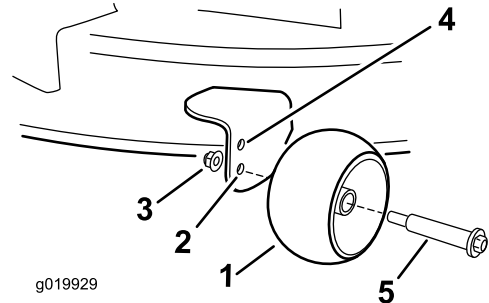

Figure 22
- Upper hole—use this position with the mower deck in the 63mm (2-1/2 inch) and below height-of-cut positions (Figure 22).
- Lower hole—use this position with the mower deck in the 76mm (3 inch) and above height-of-cut positions (Figure 22).